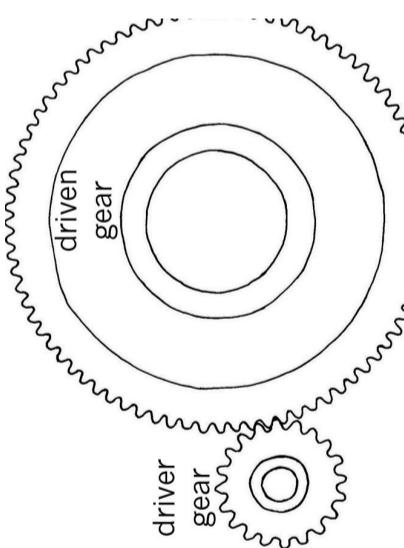

Figure 12
- Look at the set of gears in Figure 12. The driver gear has 20 teeth and the driven gear has 80 teeth.
- Calculate the gear ratio of the set of gears in Figure 12
- In Figure 12, if the input axle is rotating at 120 rpm, at what speed is the output axle rotating?
- In Figure 12, which axle will turn with the greatest force, the driver or the driven axle?